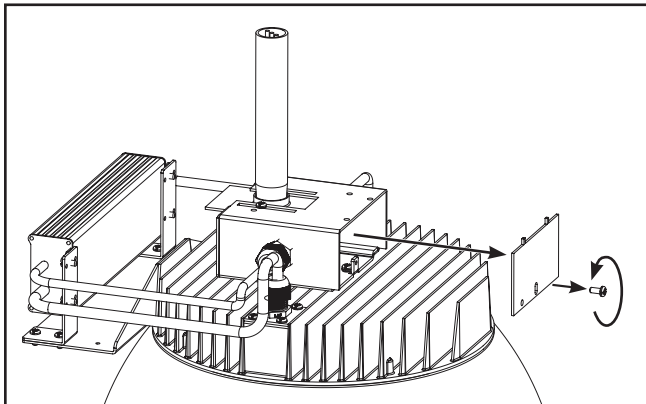

Figure 9.
- Remove the screw on the junction box cover on the front of the luminaire and remove junction box cover. (Figure 9)